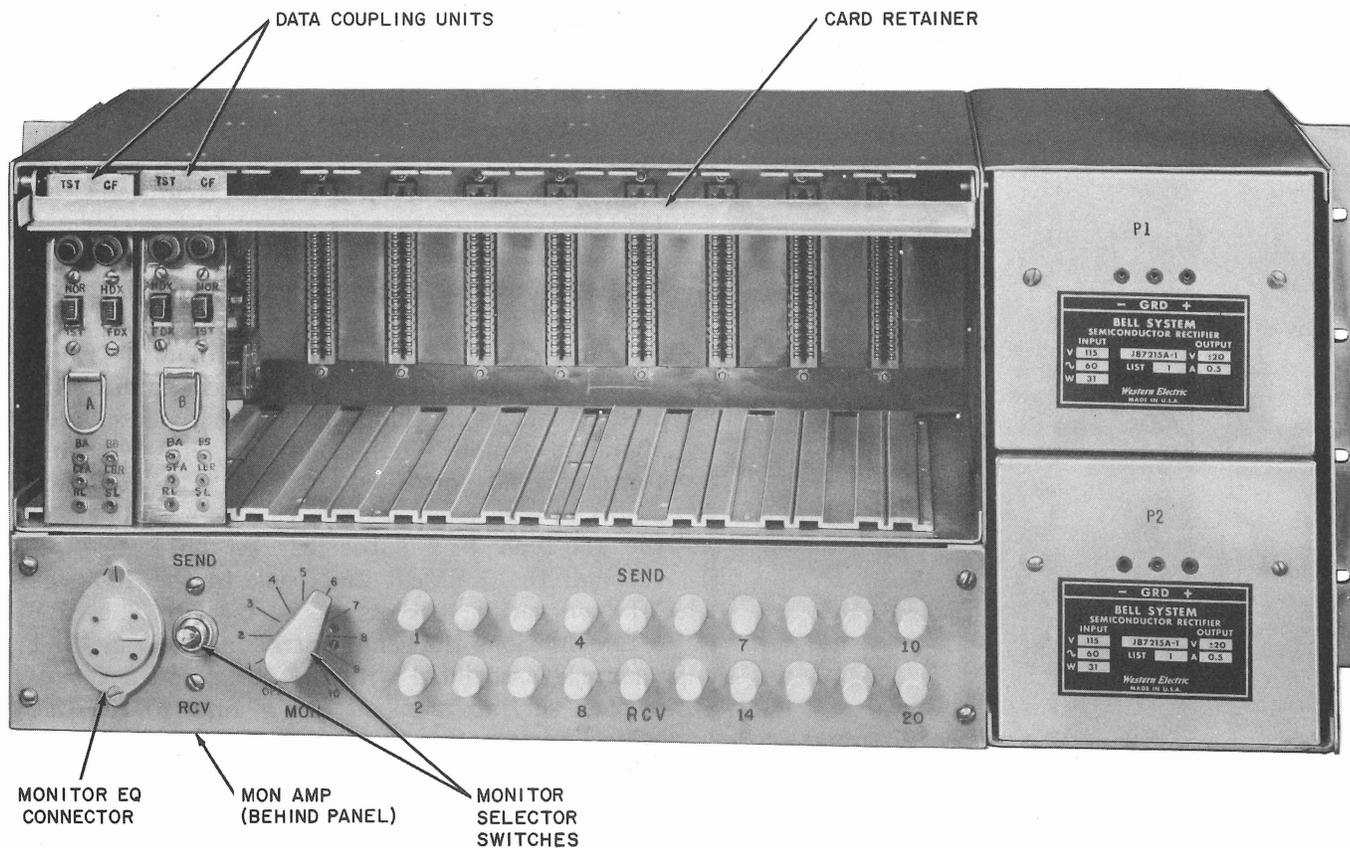

Fig. 2 — Data Auxiliary Set 816B1, Front View
1.03 Data Auxiliary Set 816B1 is designed for multi-unit locations where more than one channel of VF telegraph carrier terminates (Fig. 2). Data Auxiliary Set 816B1 is designed for up to 10 channels per unit.